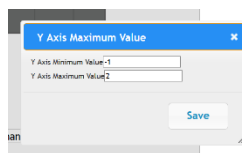

Figure 55: Absorbance Curve Y-Axis Maximum Value Dialog Box
The **Absorbance Curve**, or absorbance spectrum, shown on this page shows the absorbance of the gas in the measurement cell, in absorbance units (AU) across the range of 530 spectrometer pixels that are used by the analyzer for analysis. The exact X (pixel number) and Y (AU) coordinates of each data point on the curve can be determined by placing the mouse cursor over the data point of interest. The Y-axis scale can be adjusted by clicking on the **Change Absorbance Curve Display Y Axis** button. The **Y-Axis Maximum Value** dialog box shown in Figure 55 will then appear.